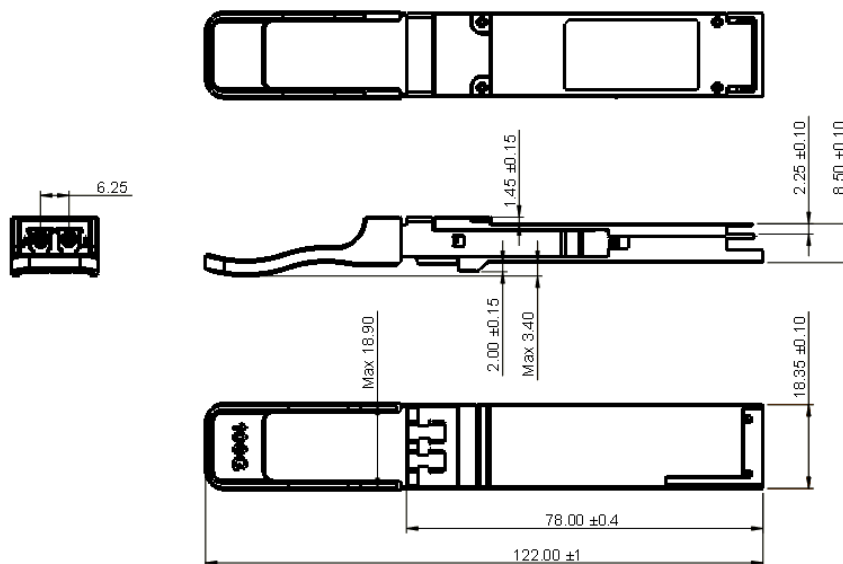

Figure 4. Mechanical Outline
4. Measured with conformance test signal for BER = 2.4×10^{-4} . A compliant receiver shall have stressed receiver sensitivity (OMA_{outer}) values below the mask of Figure 4, for SECQ values between 0.9 and 3.4 dB.